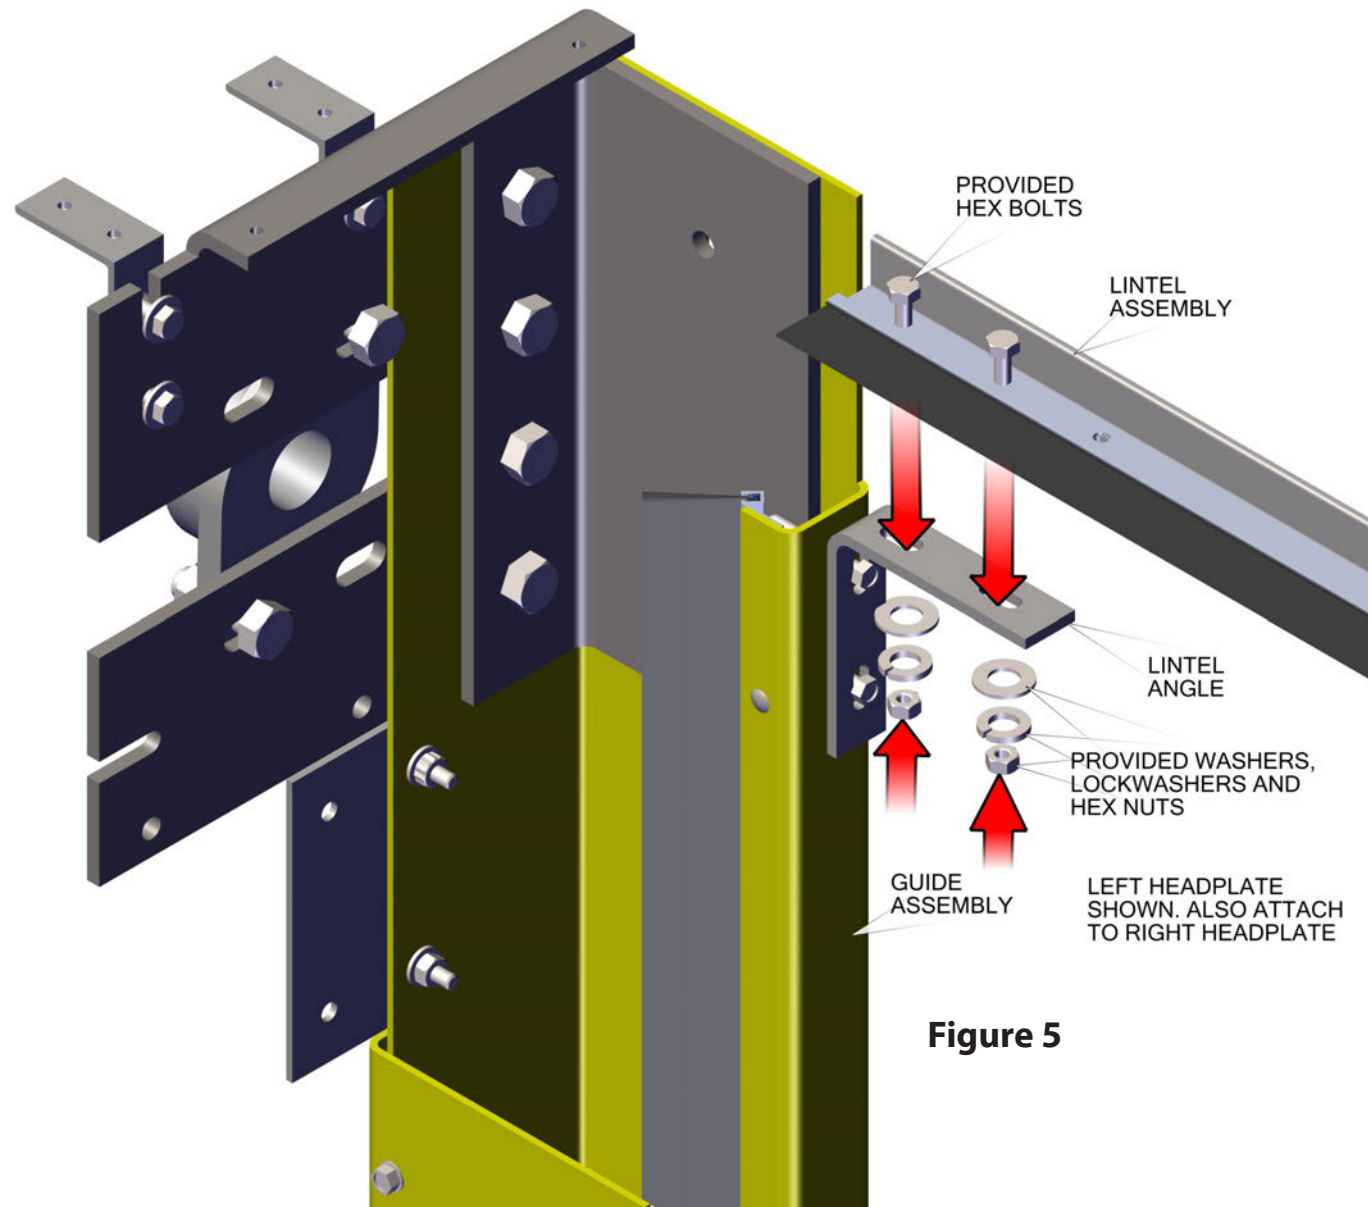

Figure 5
- Attach the lintel assembly to the bracket on each guide, as shown in Figure 5.